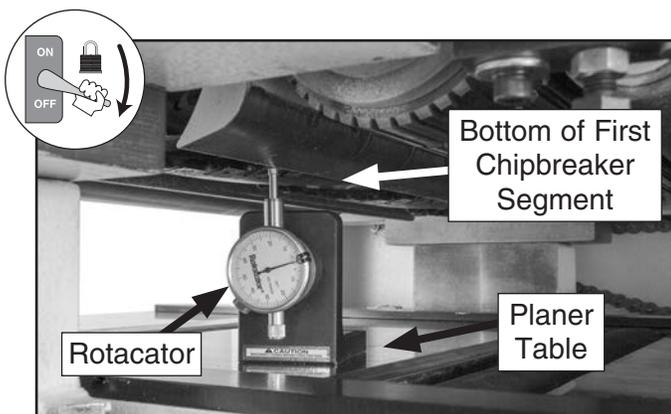

Figure 117. Rotacator placed underneath first chipbreaker segment.
3. Place Rotacator or dial indicator on planer table underneath first chipbreaker segment (see **Figure 117**).